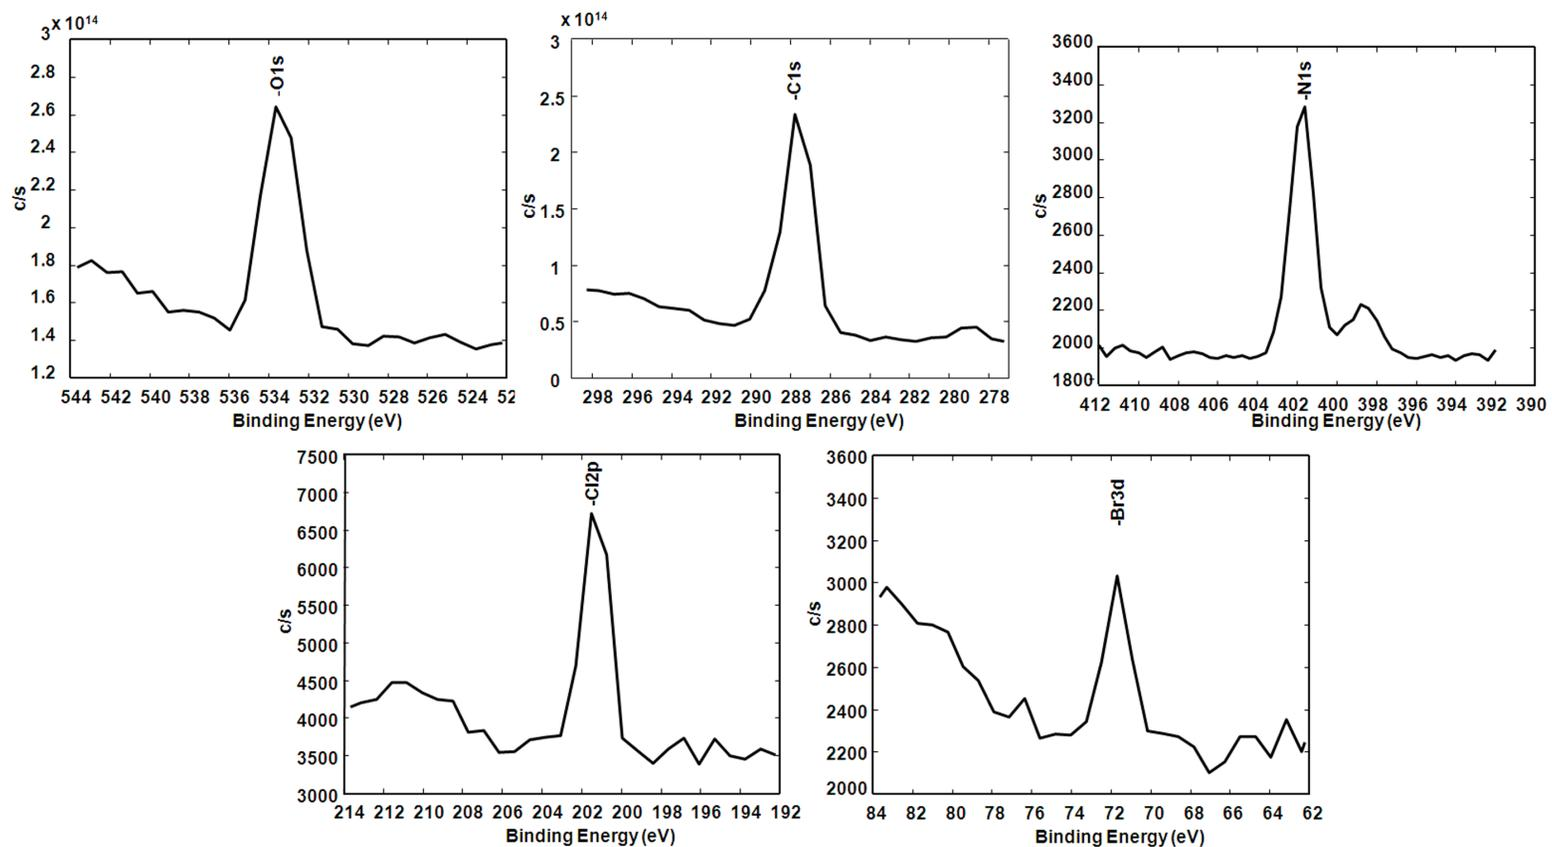

Fig. S8 XPS spectra of O1s, C1s, N1s, Cl2p, and Br3d regions of QPDMAEMA-grafted filter paper.
- 13 **Fig. S8** XPS spectra of O1s, C1s, N1s, Cl2p, and Br3d regions of QPDMAEMA-grafted filter paper.